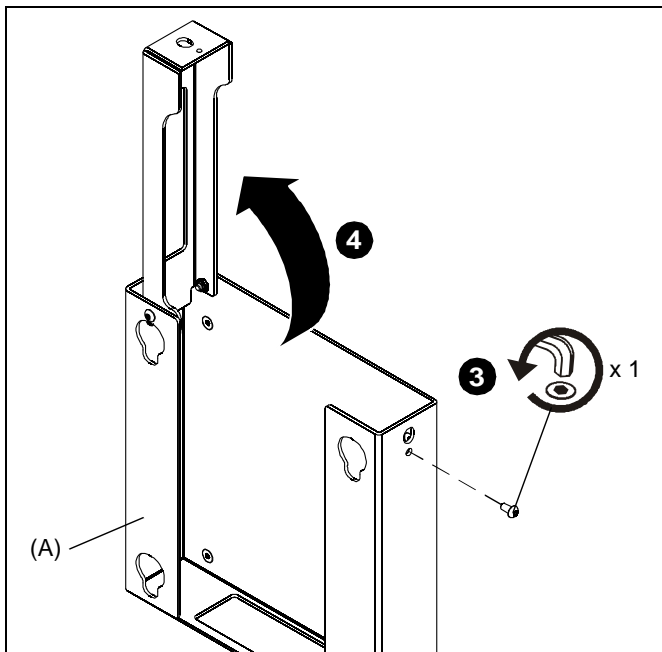

Figure 2
3. Remove and save cover locking screw from CPU holder (A) using 5/32" security hex wrench (C). (See Figure 2)
4. Open CPU holder cover. (See Figure 2)